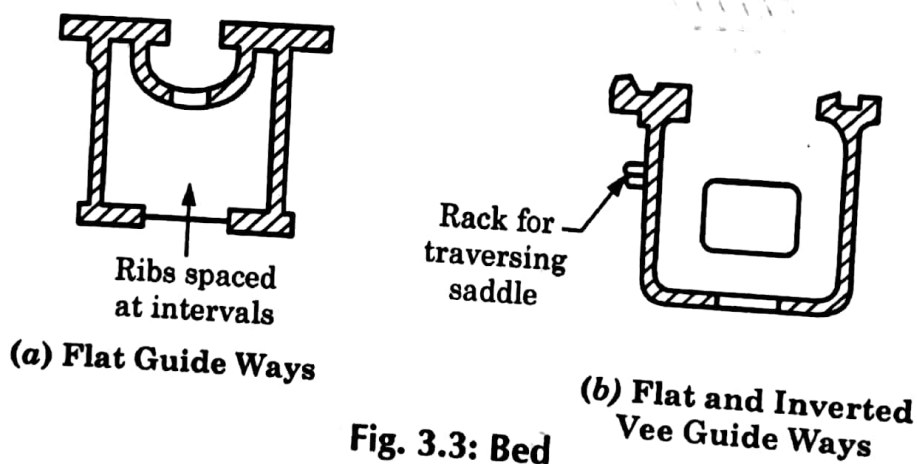

Fig. 3.3: Bed
1. **Bed** : The bed is the base or foundation of the lathe. It is a heavy and rigid casting made in one piece to resist deflection and vibrations. *It holds or supports all other parts i.e. head stock, tailstock, carriage etc.* On the top of the bed, there are two sets of guide ways: Outer-ways are for the carriage and the inner-ways for the tailstock. The guide ways are of two types i.e wide flat guide ways as shown in fig. 3.3(a) or inverted vee guide ways. Generally, the combination of both the flat and inverted vee guide ways is used as shown in fig. 3.3(b).